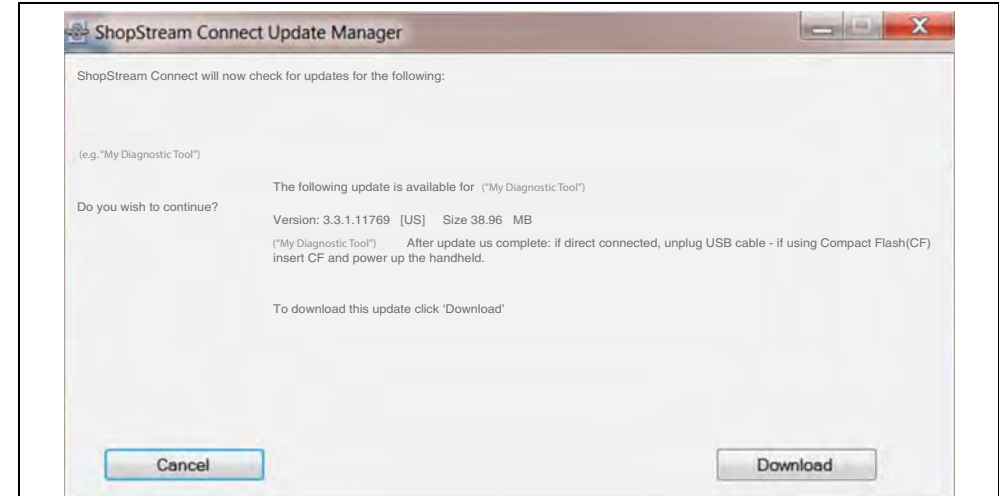

Figure 15-13
2. If service release updates are available, select **Next** to continue, then select **Download** and follow the on-screen instructions to complete the installation (*Figure 15-13*).